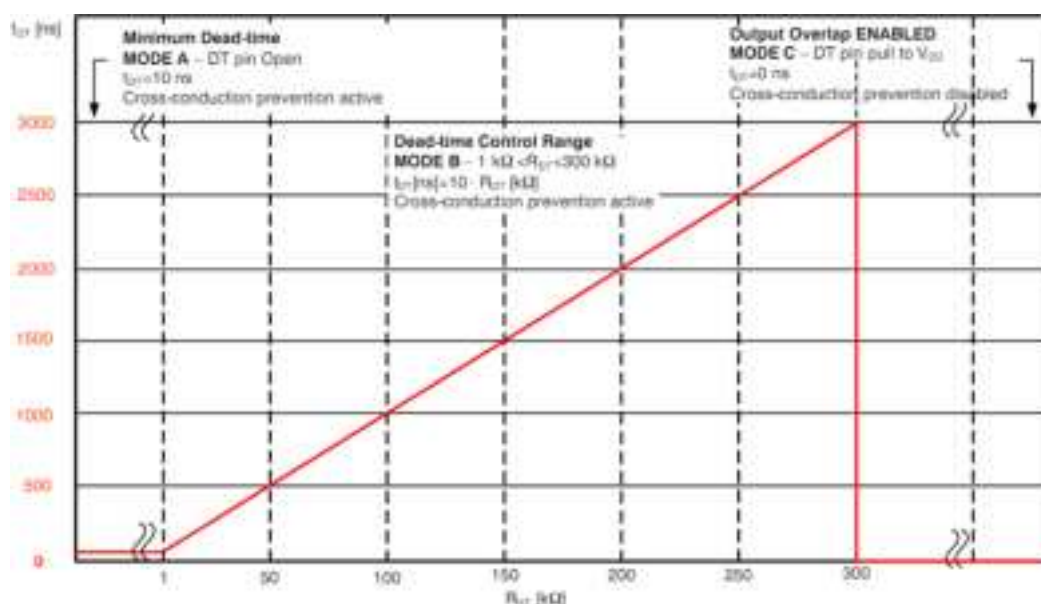

Figure 4. NCP51561 Dead Time Adjustment
+12 V Supply voltage terminal distributes 12 V to IC1 (NCP718) which 5 V LDO regulator that creates 5 V supply voltage suitable for IC2 NCP51561. The C1 and C4 are Input/Output decoupling capacitors intended to regulator while C2, C3 and C6 are VDD decoupling capacitors dedicated to Insulated driver or IC2. Resistor R3 serves as dead-time adjustment for NCP51561, while its value 10 kΩ gives approximately 100 ns dead time. The dead time (DT) between both outputs is set according to: $DT \text{ (in ns)} = 10 \times RDT \text{ (in k}\Omega\text{)}$ as it shows Figure 4.